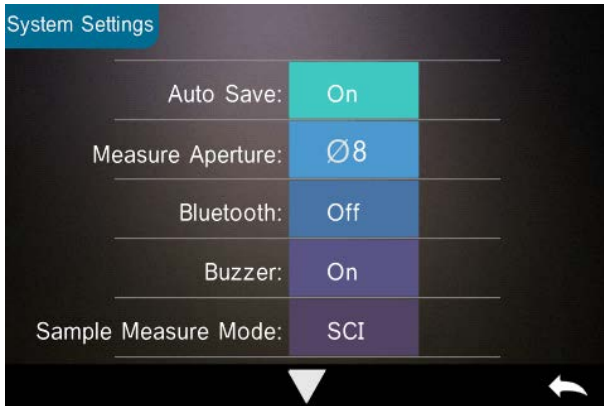
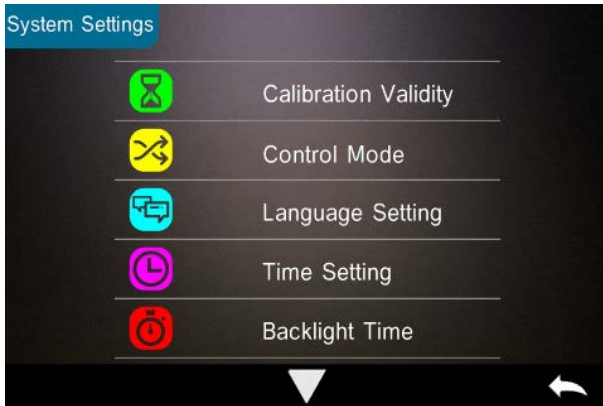
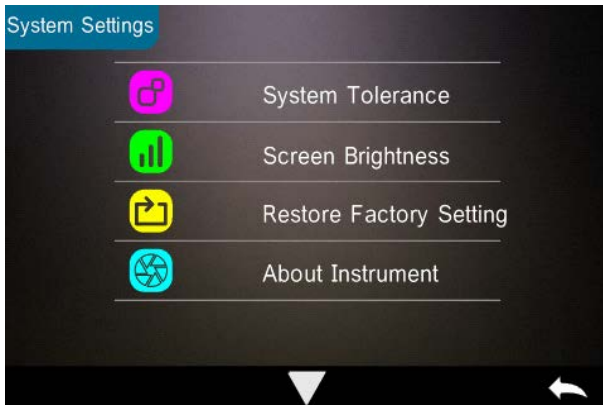

Figure 44 System Settings
Figure 45 System Settings
Figure 46 System Settings
In the main menu, click “System Setting” to view the menus per Figure 44, Figure 45 and Figure 46.
Step 3: Switch the default system measurement aperture in the System Settings (see Figure 44) to correspond with the actual measurement aperture. When the measurement aperture is switched, it is essential to re-calibrate the instrument according to part 2.2.